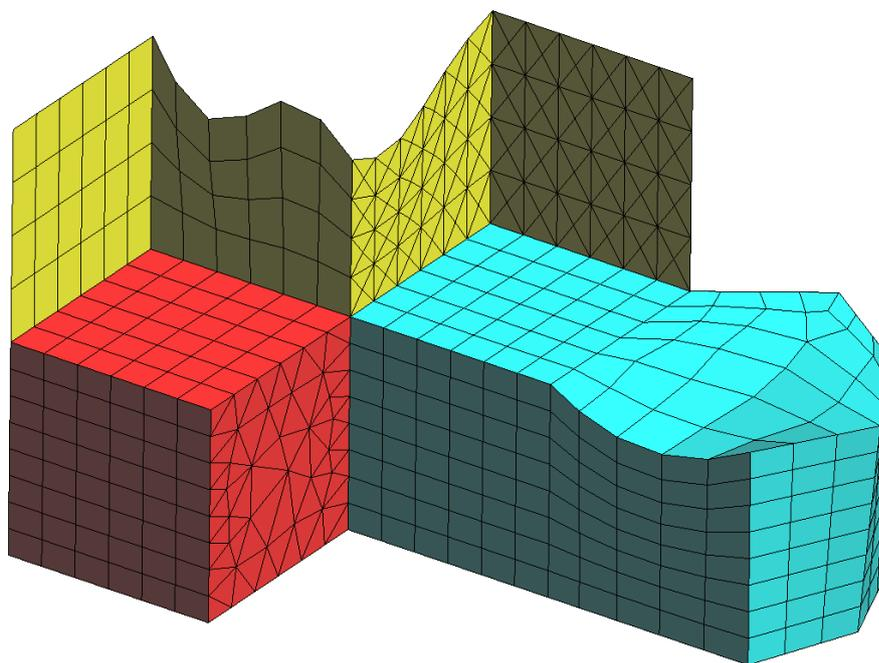

Figure 13. Semi-structured volume mesh of prisms and hexahedra.
- 23 Another window appears in which to enter the maximum element size. Leave the default value unaltered and click **OK**. The result is the mesh shown in Figure 13.